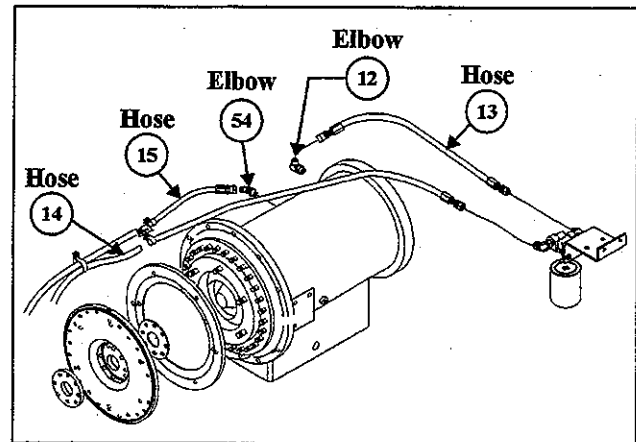

Figure 7—Transmission Hoses
3. Disconnect coolant hose (15) from elbow (54) and discard O-ring. (See Figure 7—Transmission Hoses.)
4. Disconnect coolant hose (14) from elbow at filter.
5. Disconnect transmission fluid (13) from elbow (12) at filter.